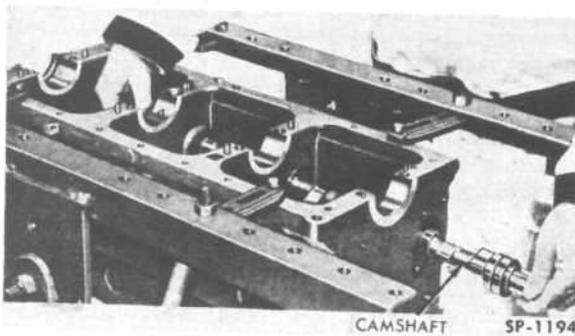

FIG. 29—REMOVING CAMSHAFT FROM CYLINDER BLOCK
- c. Withdraw the camshaft from the front of the engine. Care must be exercised to prevent damage to the camshaft bearings (Fig. 29).